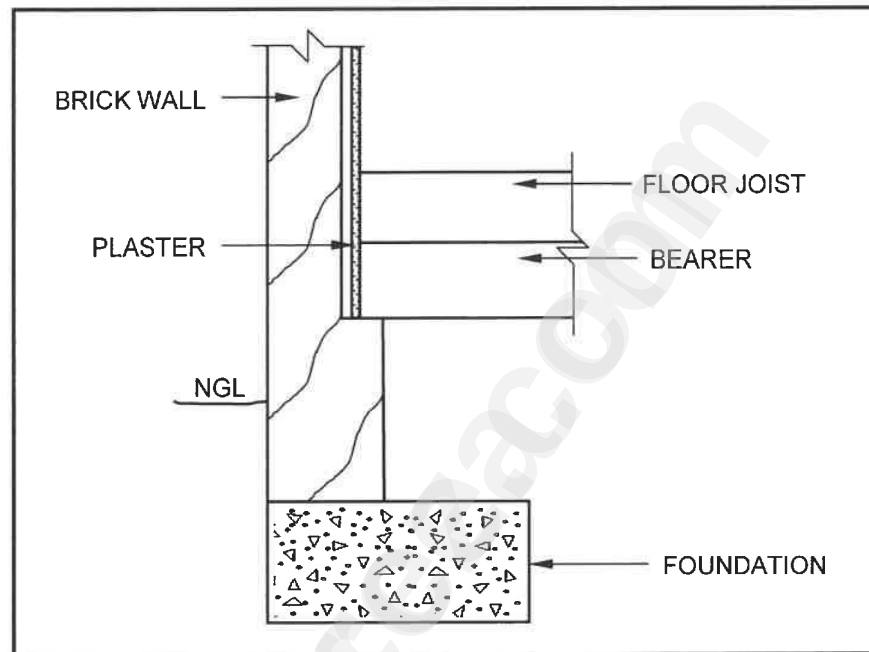

FIGURE 6.5
- 6.5 FIGURE 6.5 below shows a view of part of an incorrectly constructed suspended timber floor.